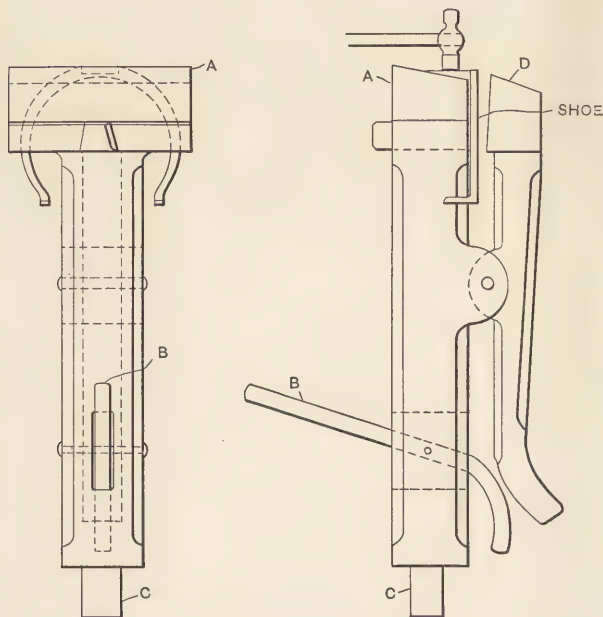

Fig. 9. Vise for Horse Shoes.
**Horseshoe Vise.**—Fig. 9 shows a home-made vise for holding horseshoes while sharpening, or shaping, which is a very useful tool. It is quite a task to sharpen a toe caulk on the anvil. It slips off and the